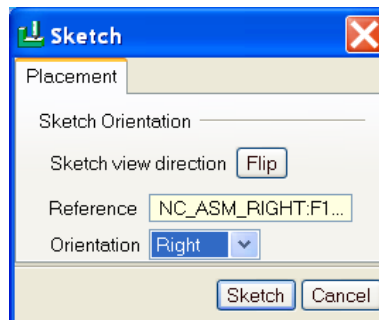

Figure 1.43
- Sketch Window pops up. Select NC_ASM_RIGHT as reference RIGHT as shown in Figure 1.43. Click on Sketch.